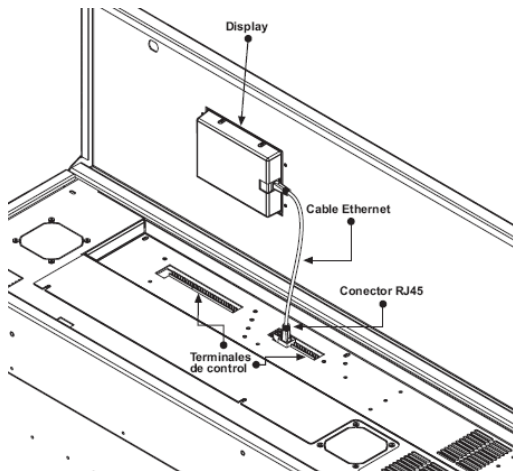
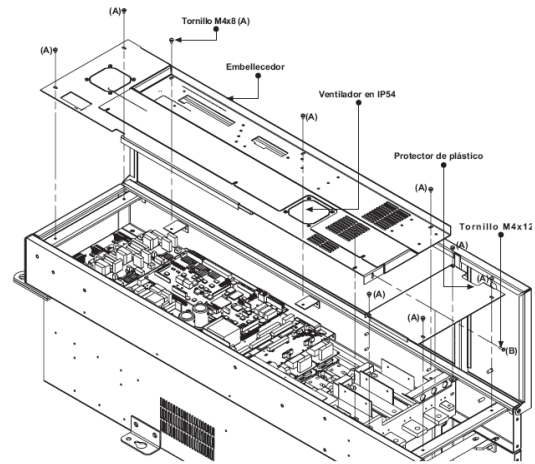

Figure 3.1 Disconnect the Display and the control terminals
Figure 3.2 Access inside
Follow figure 3.1 and figure 3.2 while reading these instructions:
- 1) Place the trims over the supports in sides of the chassis as it is shown in the figure 3.2.